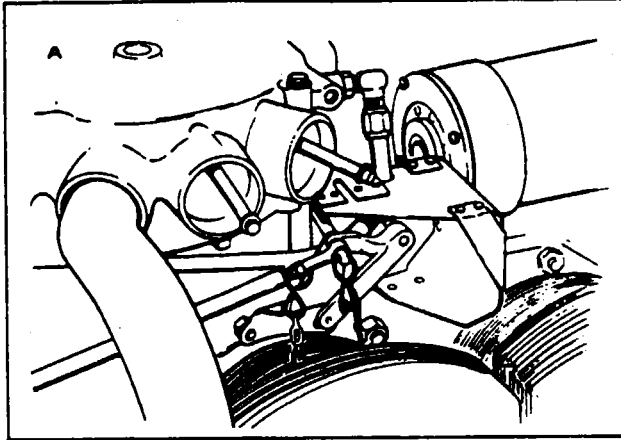

Figure 13. Fixture ST-319 installed and showing cross-shaft control lever in closed throttle position.
- b. Position the cross shaft control lever using fixture ST-319 thus: Mount the fixture over No. 4 cylinder; hold down 3/8 inch studs and nuts. Secure with two (P/N 383-B) nuts. If unable to secure with nuts because of insufficient thread, hold the fixture by hand. The fixture in position is shown in Figure 13.
- e. Align hole in ball end of injector connecting rod, hole in cross shaft control lever and hole in fixture. Insert fixture pin through all three holes. (See Figure 13.) With throttle lever held firmly against gauge on injector, adjust the connecting rod length (maintaining approximately equal thread engagements on both ends) and attach to throttle lever. Remove fixture (ST-319) and attach injector connecting rod to the cross shaft control lever. Remove gauge (ST-318).